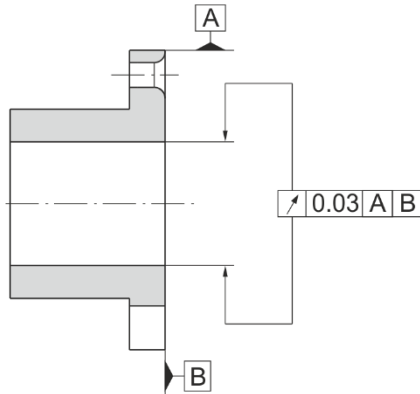

Fig. 2
- ❑ The recommended bore tolerances are to be produced using the position and tolerance width as references; at the same time, please keep to the shaft run-out and axial run-out tolerances of 0.03 mm (see Fig. 2).